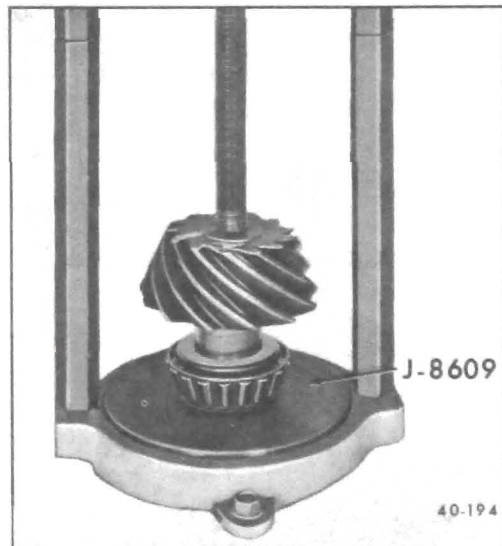

Figure 40-195 - Installing Rear Pinion Bearing
11. Install selected shim and rear pinion bearing onto drive pinion using Installer J-8609 and press. See Figure 40-195.